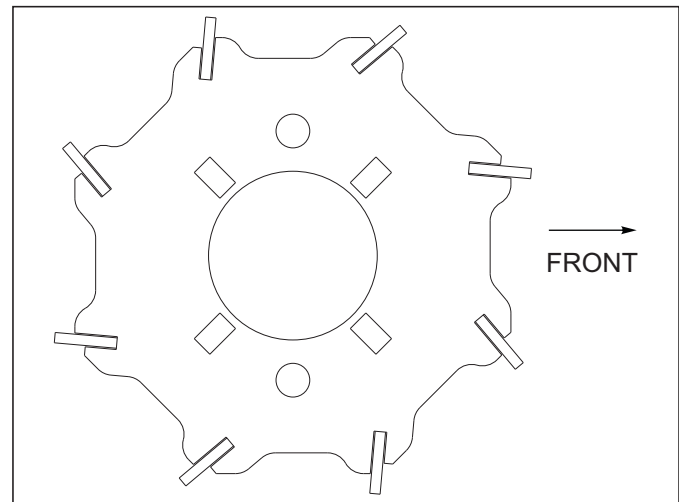

Figure 3-34: Flat Reel
7. Attach flat bar reels with angled blades as shown **See Figure 3-34**.